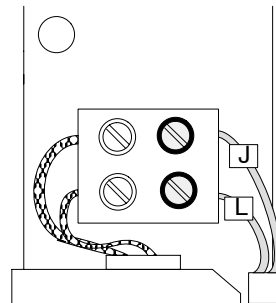

Figure 8 Connect the Heater
1. On the heater side of the pivot sleeve, loosen the two screws on the heater terminal block as shown in Figure 8. Insert wires L and J, extending from the hose, into the terminal block.